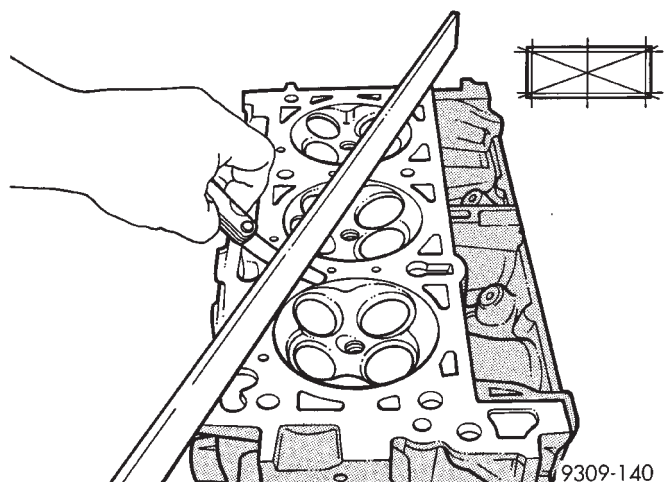

Fig. 89 Checking Cylinder Head Flatness—Typical
(1) Before cleaning, check for leaks, damage and cracks.
(2) Clean cylinder head and oil passages.
(3) Check cylinder head for flatness (Fig. 89).
(4) Cylinder head must be flat within: